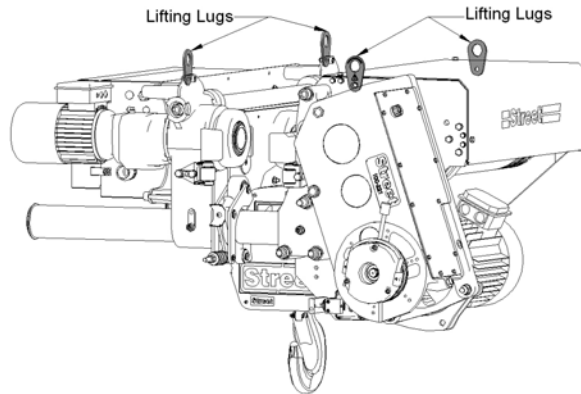

Figure 6 – Low Headroom 4&8 Fall Lifting Points
- Raise the hoist to runway level, use the lifting lugs provided see Figure 6.